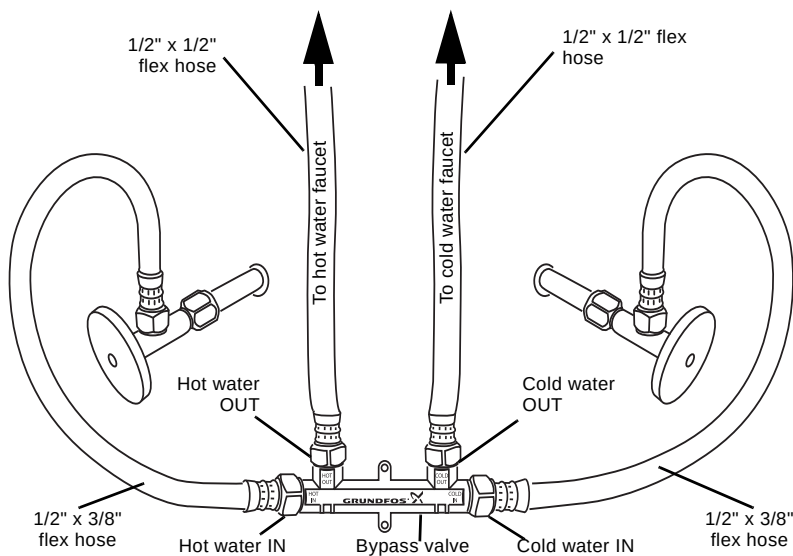

Fig. 5 Connect the bypass valve, flex hoses, and fittings as shown
1. Connect the 1/2" X 1/2" flex hoses to the ports on the bypass valve marked "HOT OUT" and "COLD OUT". See fig. 5.
2. Connect the 1/2" x 3/8" flex hoses to the ports on the bypass valve marked "HOT IN" and "COLD IN". See fig. 5.
3. Connect the 1/2" hose fitting from the "HOT OUT" port on the bypass valve to the left side of the faucet. See fig. 5.
4. Connect the 1/2" hose fitting from the "COLD OUT" port on the bypass valve to the right side of the faucet. See fig. 5.
5. Connect the 3/8" hose fitting from the "HOT IN" port on the bypass valve to the left angle stop valve. See fig. 5.
6. Connect the 3/8" hose fitting from the "COLD IN" port on the bypass valve to the right angle stop valve. See fig. 5.